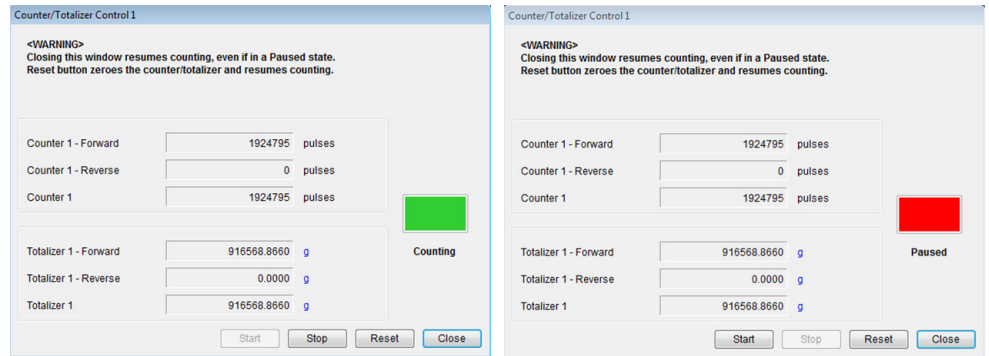

Figure 4.13—Counter/Totalizer Control # dialog, counting (left) and paused (right)
1. Choose **Diagnostic/Service>Counter/Totalizer Control>Counter/Totalizer Control #**. The *Counter/Totalizer Control #* dialog (Figure 4.13) will appear.
2. Pause the counter by clicking **Stop**, which will change the green “Counting” status indicator (Figure 4.13, left) to red, indicating a “Paused” status (Figure 4.13, right).